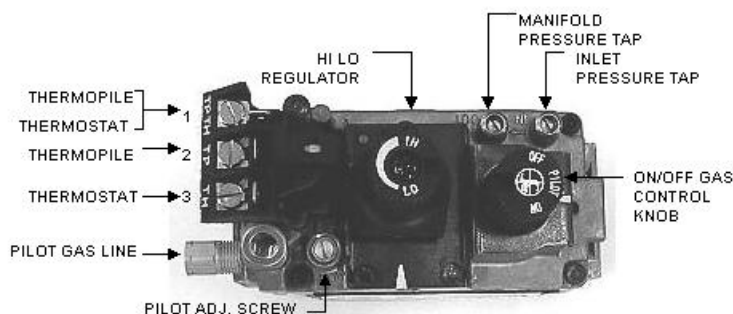

FIGURE 19: Millivolt Readings
1. Turn off gas supply at the appliance service valve. Identify the Pressure Regulator on the Valve Body, see Figure 19 on Page 30.